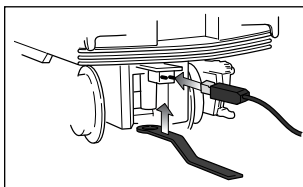

Figure 1. Connections
2. Place your Subway Set on Lionel or Lionel-compatible 0-36 or wider track and connect the drawbar and tether between the cars as illustrated in Figure 1. Note that the tether is 'keyed' and will plug in only one way. Connection is marked "UP" for clear identification.
1. Place your Subway on Lionel or Lionel-compatible 0-36 or wider track and connect the drawbar and tether between the cars as illustrated in Figure 1. Note that the tether is 'keyed' and will plug in only one way. Connection is marked "UP" for clear identification.
2. Power your Subway Set at 12-18 volts with your alternating current (AC) transformer.